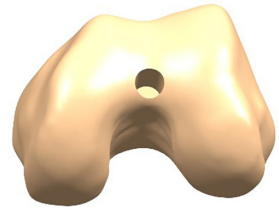

Figure 71
1. Open the femoral canal with the 9.5mm Intramedullary Drill. The drill has a 12mm step to open the entry point further (Figure 71).